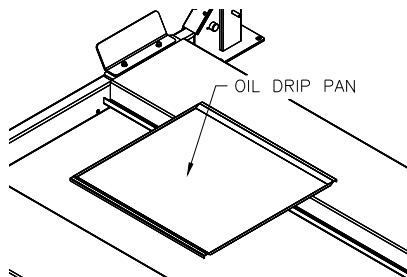

Fig 19 – Oil Drip Tray
- 1) Place drip tray between runways in the Jack rail, **Fig 19**.